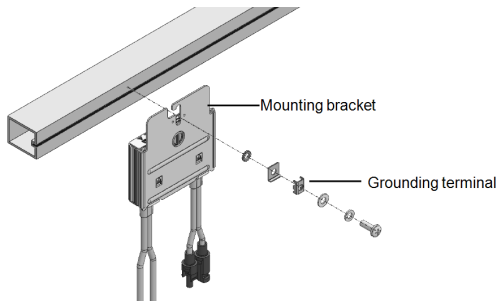

Figure 7: Power optimiser grounding terminal
- **For mounting on un-grounded structures** (such as a wooden structure): If the star washer or the plate cannot be used, use the SolarEdge grounding lug (purchased separately) with an equipment-grounding conductor according to the supplied instructions. The grounding terminal accepts a wire size of 6-14 AWG, and must be sized for equipment grounding per NEC 250.122 requirements. Tighten the screws connecting the power optimiser to the frame and the grounding terminal screw. Apply torque of 9.5 N*m / 7 lb*ft. See Figure 7